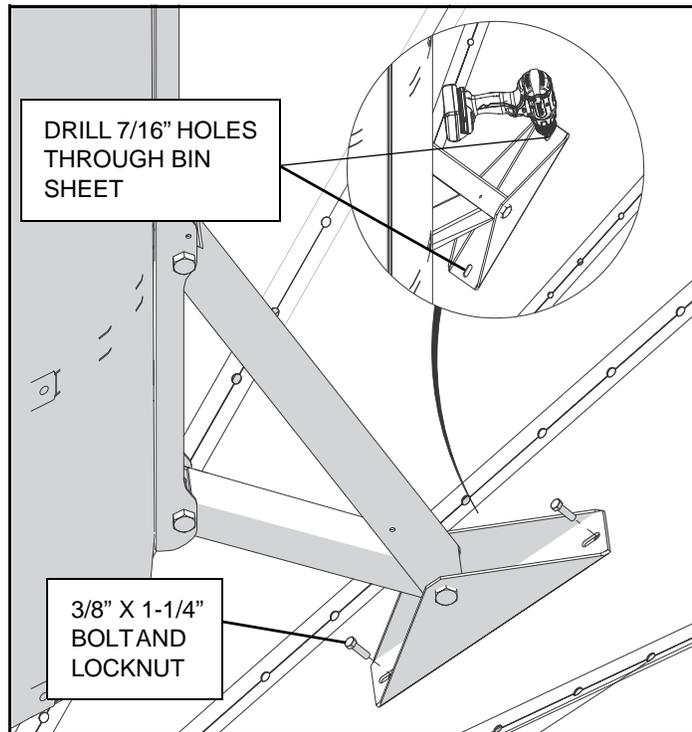
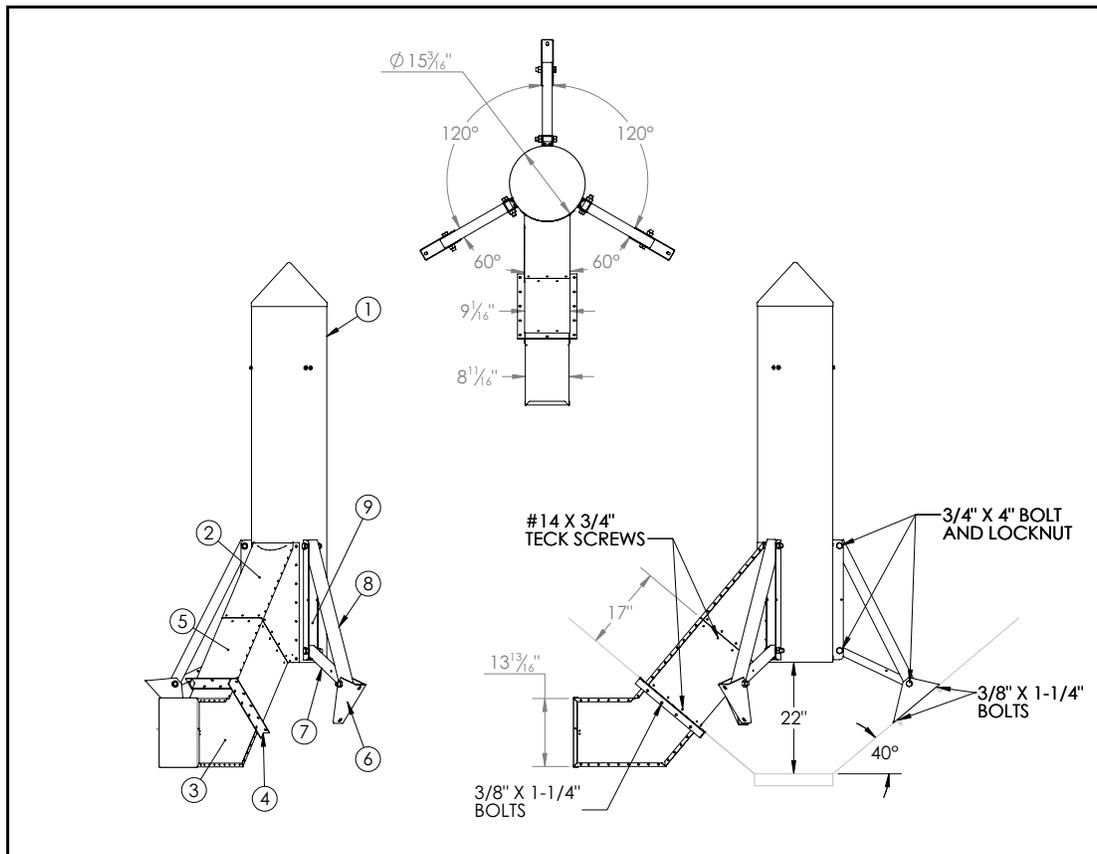

Figure 3.5
Figure 4.1 GG 6000 Series Rocket
Refer to Figure 3.5, one of Figures 4.1–4.4, and one of Tables 4.1–4.4 found in Appendix during installation, depending on the model being installed.
3. Once inside, replace legs, assemble in the installed position as shown in Figure 4.1.
11. Using the holes in rocket feet as a guide, drill 7/16" holes in the hopper cone as shown in Figure 3.5. Attach rocket feet to hopper cone with 3/8" x 1-1/4" bolts and nuts. See Figure 3.5.